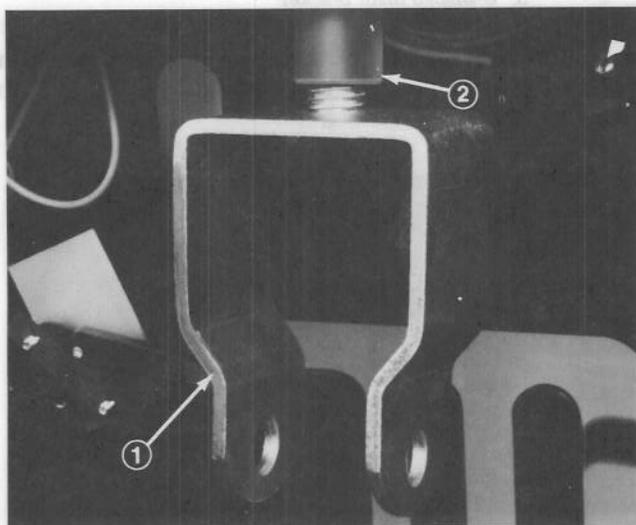

Figure 8
1. Adjust the U-shaped pivot bracket until 3 threads are visible between the pivot bracket and swivel block (Fig. 8).